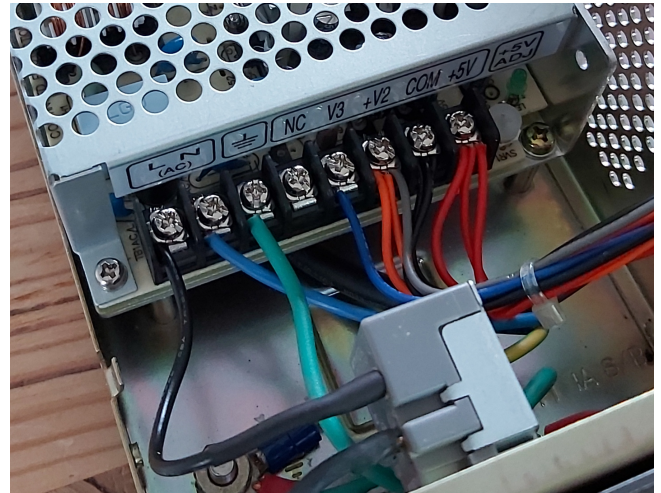

Figure 4: Connect all wires to the relevant PSU terminals.
4. Connect the wires leading from the NABU motherboard, as shown in Table 2 (above) and Figure 4.